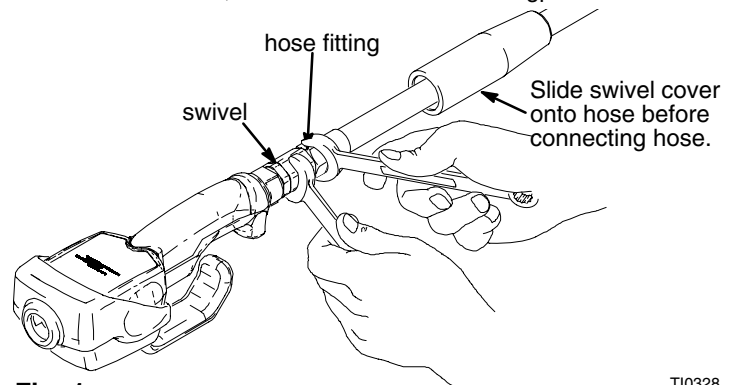

Fig. 1
5. **Install new EM5 or PM5:** Slide the swivel cover onto the fluid supply hose, small end first. See Fig. 1.
6. Apply thread sealant to the male threads on the hose fitting. Thread the hose fitting into the swivel of the EM5 or PM5, and tighten it firmly. See Fig. 1. Tighten the swivel to the housing, if necessary.